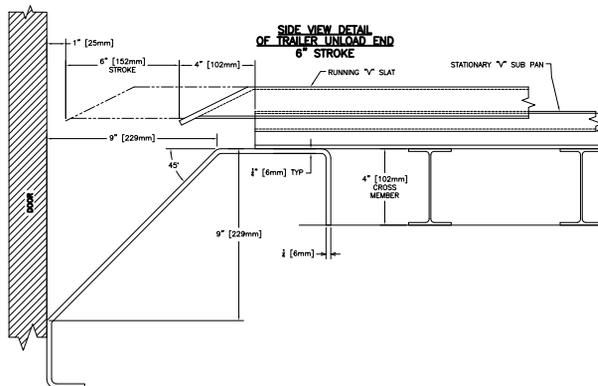

Figure 16
1. Determine the dimensions of the baffle plate (Figure 16).